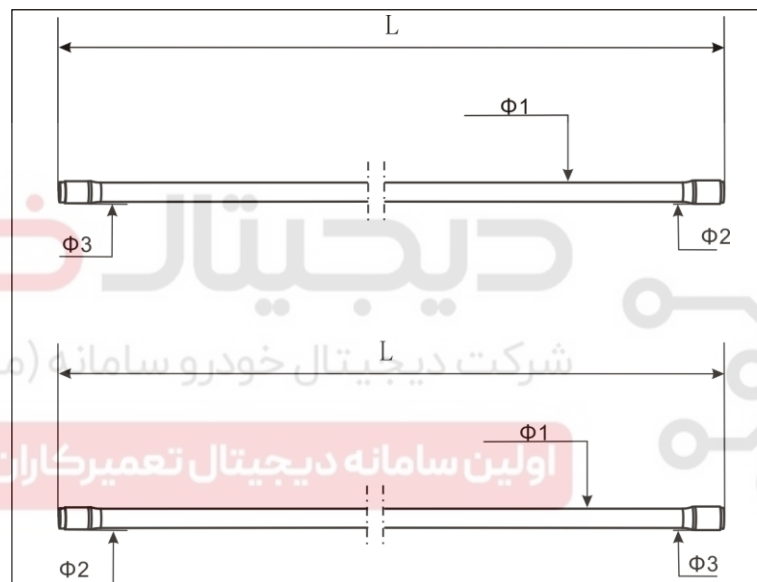

Figure 4-48 Left, Right Torsion Bar Spring Mark
(1) Before dismantling torsion bar spring, pay attention to relative position relation between torsion bar spring and damper, when dismantling, install setting tool on damper position, and make length adjustment.
(2) Before dismantling torsion bar spring, make assembly marks on torsion bar spring and rocker arm, to avoid changing the relative position between torsion bar spring spline and rocker arm hole spline, consequently influence terrain clearance of body.
(3) When re-installing, be sure not to install left and right torsion bar spring wrongly, they can not be exchanged. Since bearing force direction of left and right torsion bar spring is opposite, in order to maintain strength of fatigue, torsion bar spring treats pre-stressing in different direction during thermal treatment. If install wrongly, performance of torsion bar spring will be reduced and spring breaks easily. So when re-installing, marks on torsion bar spring shall be followed, there are two paint markings on left torsion bar spring, and one paint marking on right torsion bar spring, see Figure 4-48.